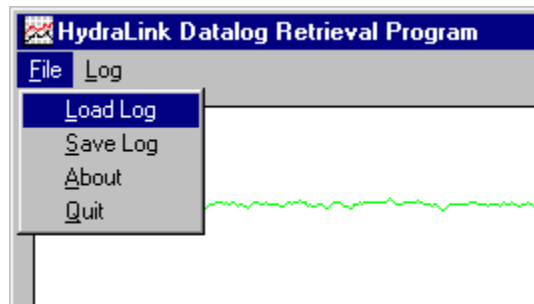

Figure 2.17 – Load Log
1. Click on File in the HydraLink window. (See Figure 2.17 – Load Log, below.)